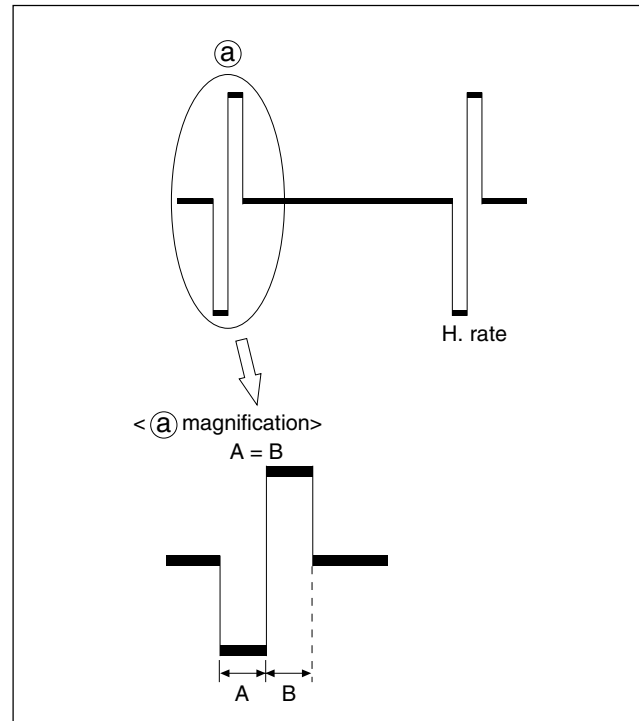

Fig. 3-4-1 PLL (VF)
- 2) For the wavefor shown in the waveform chart (Fig. 3-4-1), equalize the width of A and B with each other by adjusting R7421.